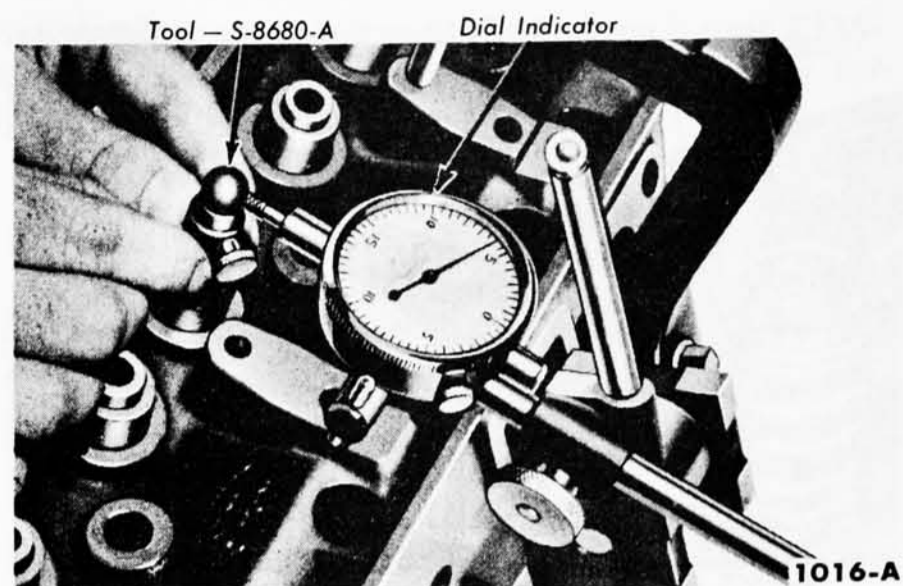

Fig. 15—Valve Stem Clearance
**VALVE STEM CLEARANCE.** Check the valve stem to valve guide clearance of each valve in its respective valve guide with the tool shown in Fig. 15 or its equivalent.